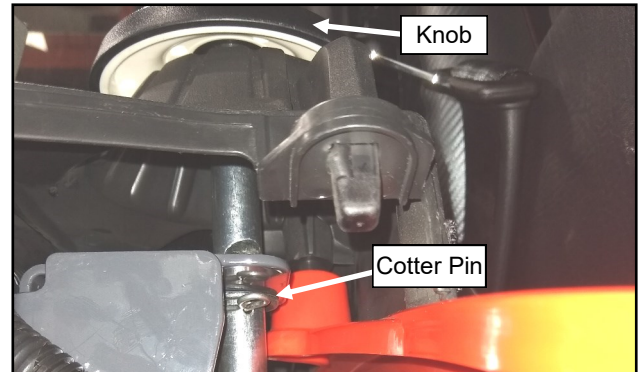

Fig. 1.14 (Blade Height Adjustment Knob)
- 1.14 See fig. 1.14. Locate the cotter pin retaining the blade height adjustment knob. Remove and set aside the cotter pin and adjustment knob.